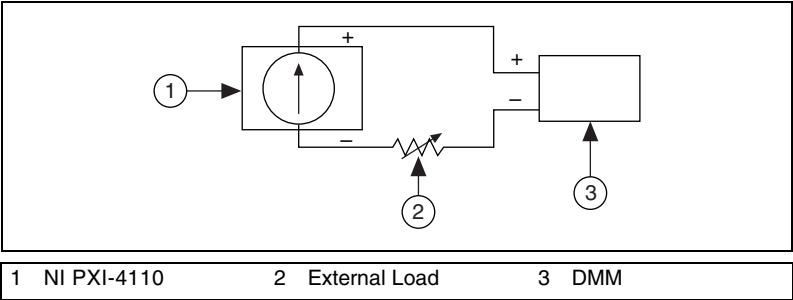

Figure 1. Current Accuracy Verification Test System
2. Connect the DMM and the external load to the channel x output terminals of the NI PXI-4110, as illustrated in Figure 1.
For all other *Output* values, connect the DMM and the external load to the channel *x* output terminals of the NI PXI-4110, as illustrated in Figure 1.